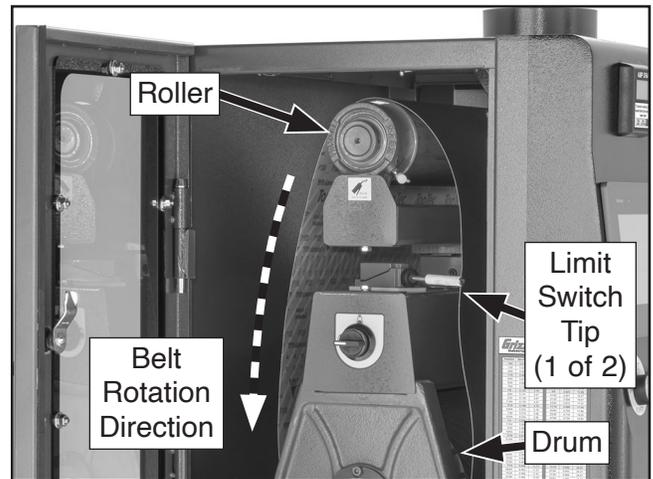
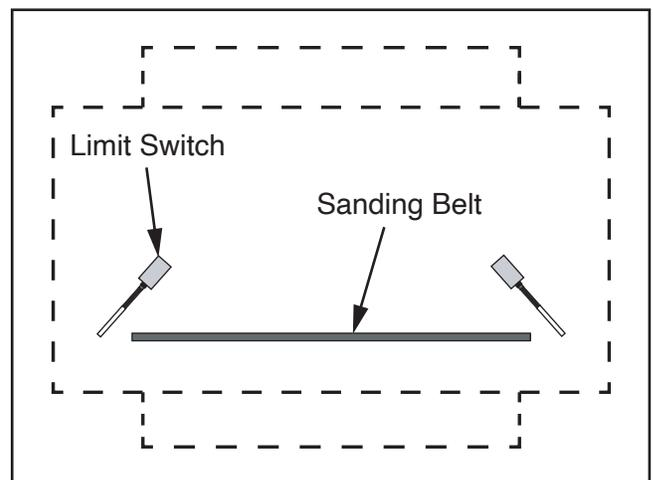

Figure 42. Sanding belt installed correctly.
Figure 43. Sander outline (top view) of proper position of belt.
8. Install desired sanding belt over roller and drum, starting with roller (see **Figure 42**).
Note: Sanding belt must be centered between limit switch tips (see **Figure 42–Figure 43**) and rotation arrows on sanding belt must be pointing in a counterclockwise direction, as shown in **Figure 42**.